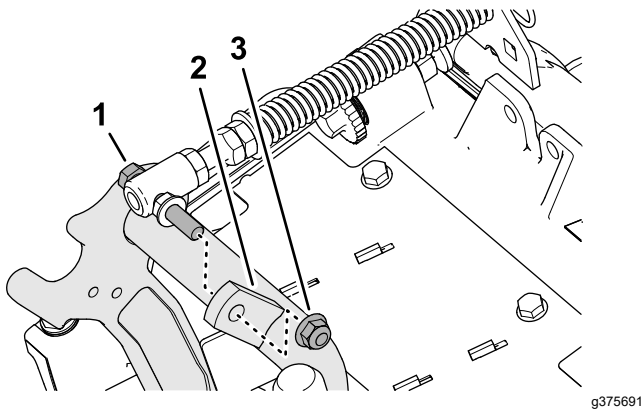

**Figure 8**
2. Remove the 2 flange locknuts (3/8 inch) and 2 carriage bolts (3/8 x 1-1/4 inches) that secure the turf-compensator bracket to the cutting-unit frame (Figure 8).